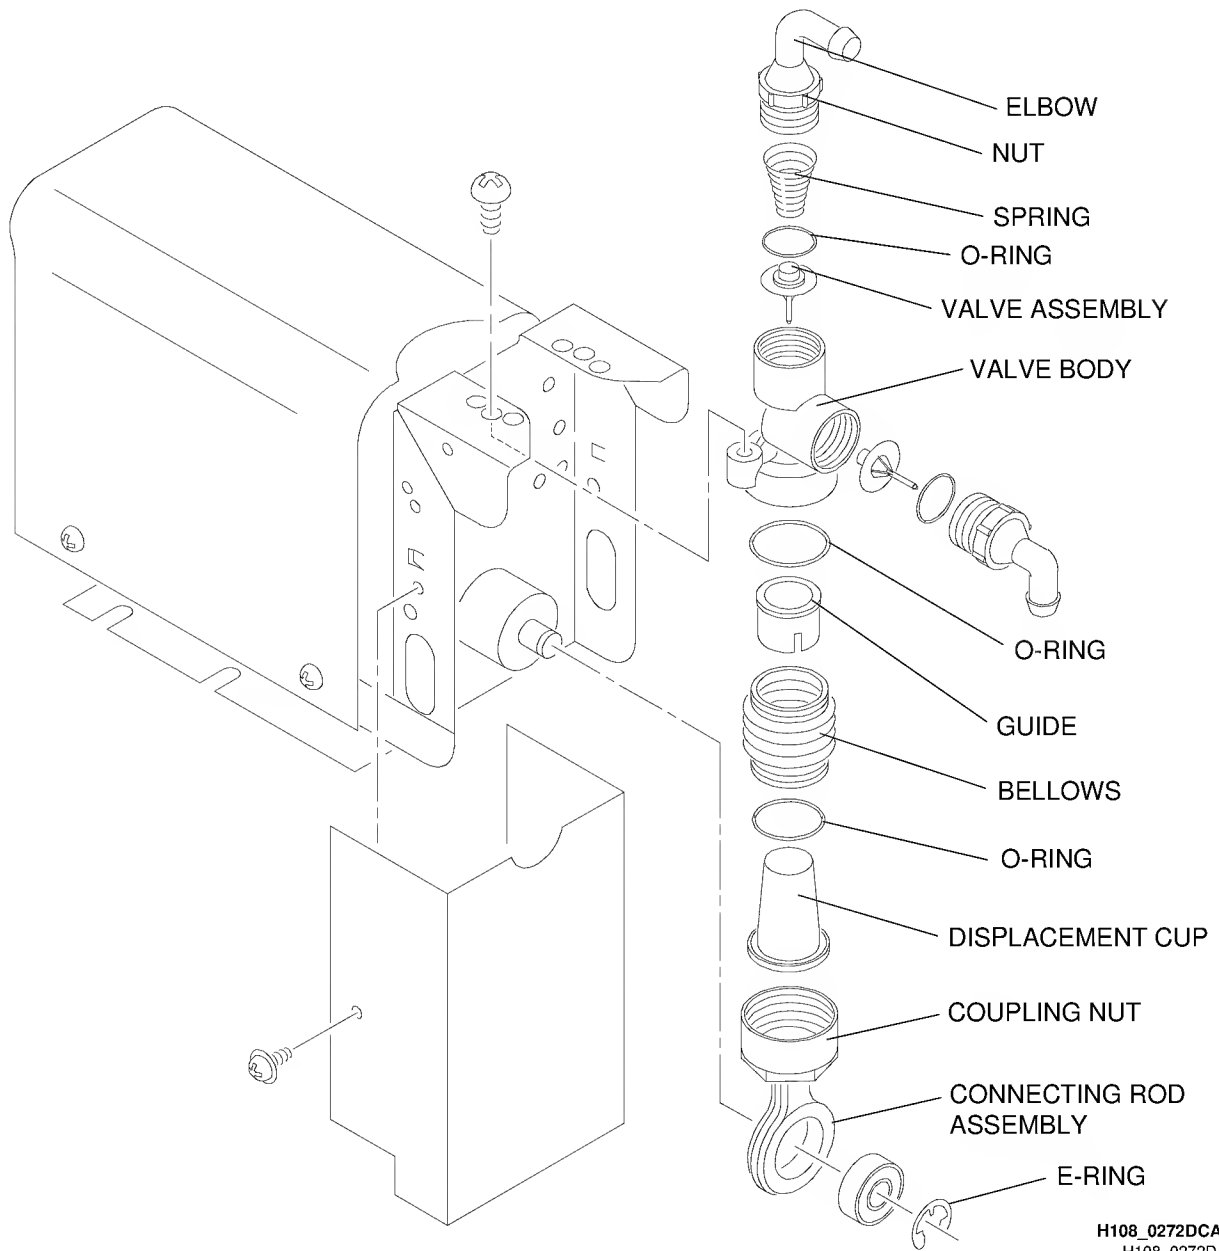

Figure 5-4 Assembling a Replenisher Pump
- [4] If necessary, install new parts or, install a new REPLENISHER PUMP. See Figure 5-4 on page 5-5 for the location of parts.